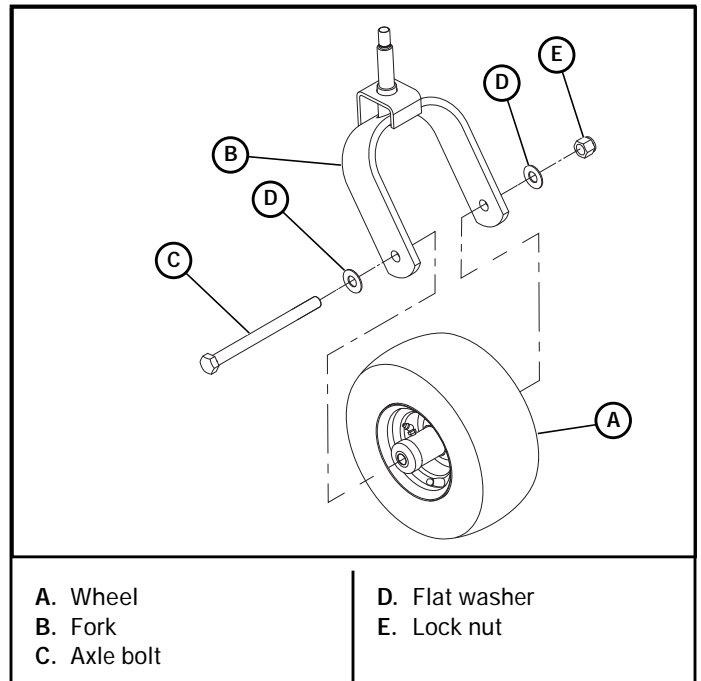

Figure 6-29
- Remove the wheel from the fork by removing the axle bolt, flat washers, and lock nut. Figure 6-29